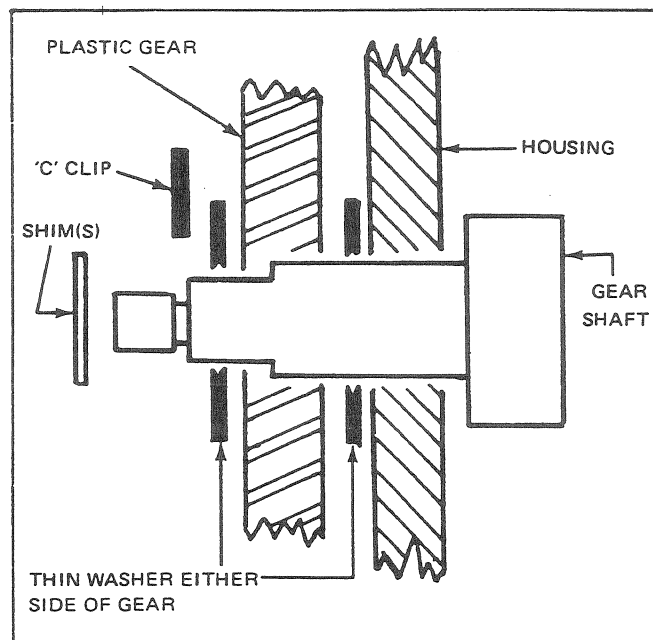

Fig. 14 – Article No. 116
18. Apply thin coating of low temp grease to worm gear in housing. Apply thin smear of grease to gear shaft and insert into housing. Place flat washer over shaft. Apply thin smear of grease only on teeth of plastic gear. **Surplus grease must be removed from flat surfaces of gear.** Replace thin washers and retain gear shaft in position with existing "C" clip. Replace original number of shims over pinion shaft. (See Fig. 14)